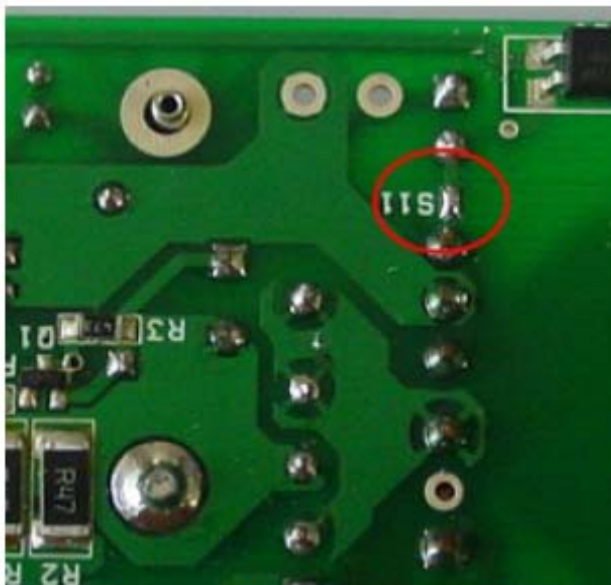

Figure 2: aux. winding connection
1. Make sure the S11 point is shorted as shown in Figure 2.